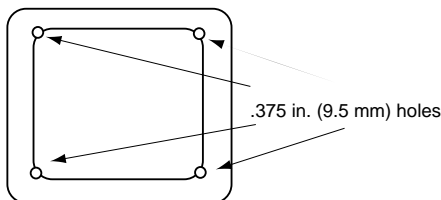

Figure 8. EAS Antenna Channel Holes
2. Drill one .375 in. (9.5 mm) hole in each corner of the inner square as shown in Figure 8. Any of these holes may be used as a channel for the EAS antenna wire.